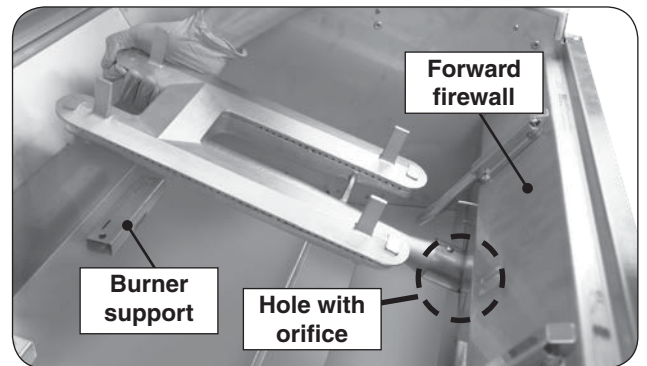

Fig. 41-3 Remove burners
3. Carefully lift the burner from the burner support and out from the hole in the forward fire wall. See Fig. 41-3.